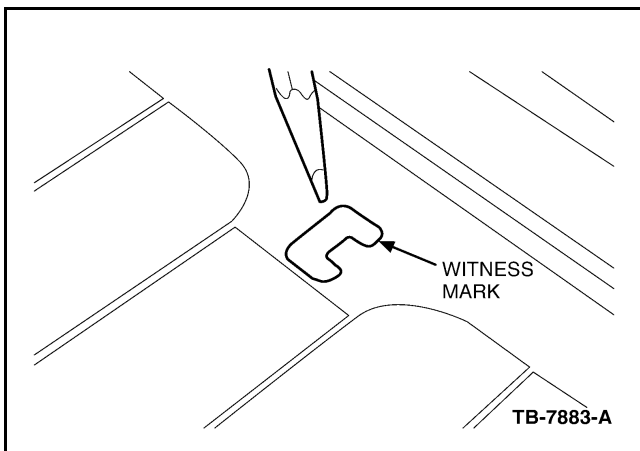

Figure 4 - Article 04-24-5
1. Place the replacement terminal over the original tab location making sure the conductive areas of the terminal will be on a good conductive area. Do not place the terminal tab foot on the original location which does not have conductive material (figure 4).